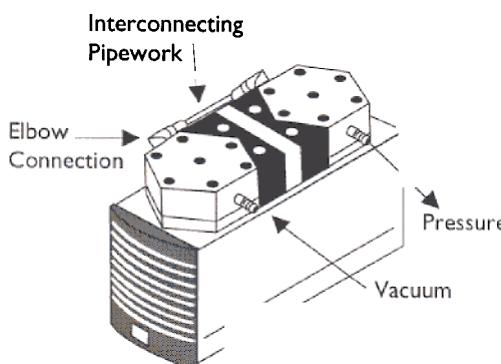

Figure 14: Gas Ballast
- ★ Remove the pipe work connecting the pump heads (see *figure 14*).
- ★ Unscrew the connecting piece from the vacuum side of the head. (See *figure 14*).